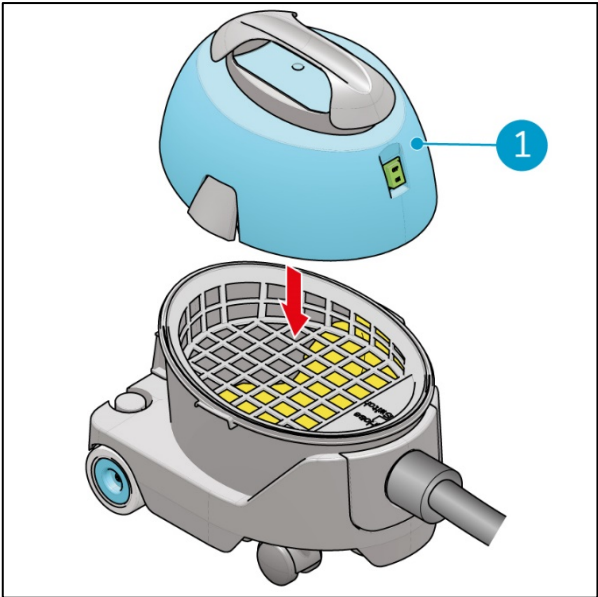

Figure 13
15. Place the head (Figure 13, pos 1) onto the can.